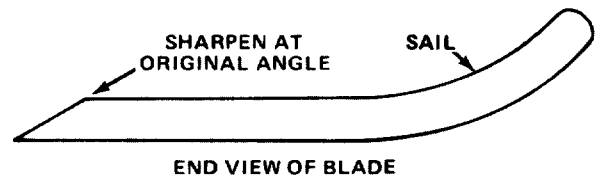

Figure 11
2. Inspect cutting edges of blade. Sharpen the cutting edges if they are dull or nicked. Sharpen only the top of the cutting edge and maintain the original cutting angle to make sure of sharpness (Fig. 11). The blade will remain balanced if same amount of metal is removed from both cutting edges.